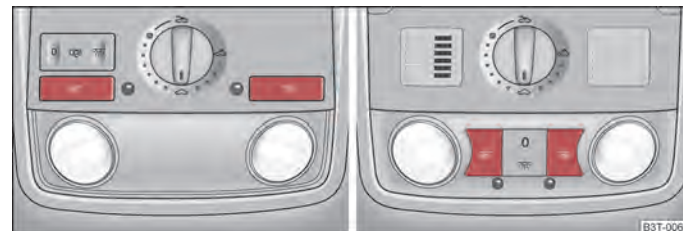

Fig. 42 Reading lights
- Press switch  ⇒ fig. 42 to switch the reading lights on/off.